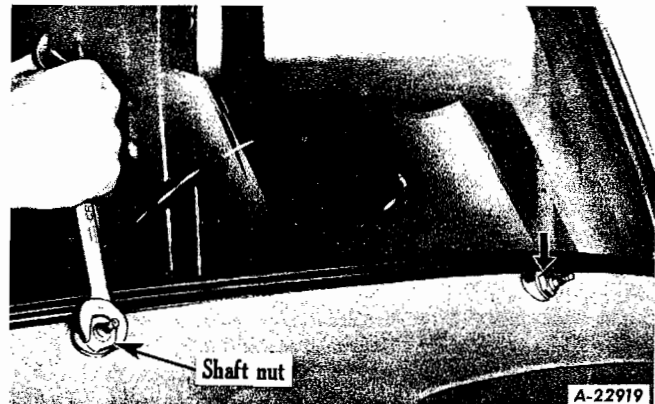

Fig. 82
2. Remove retaining nuts from windshield wiper arm shafts (Fig. 82).